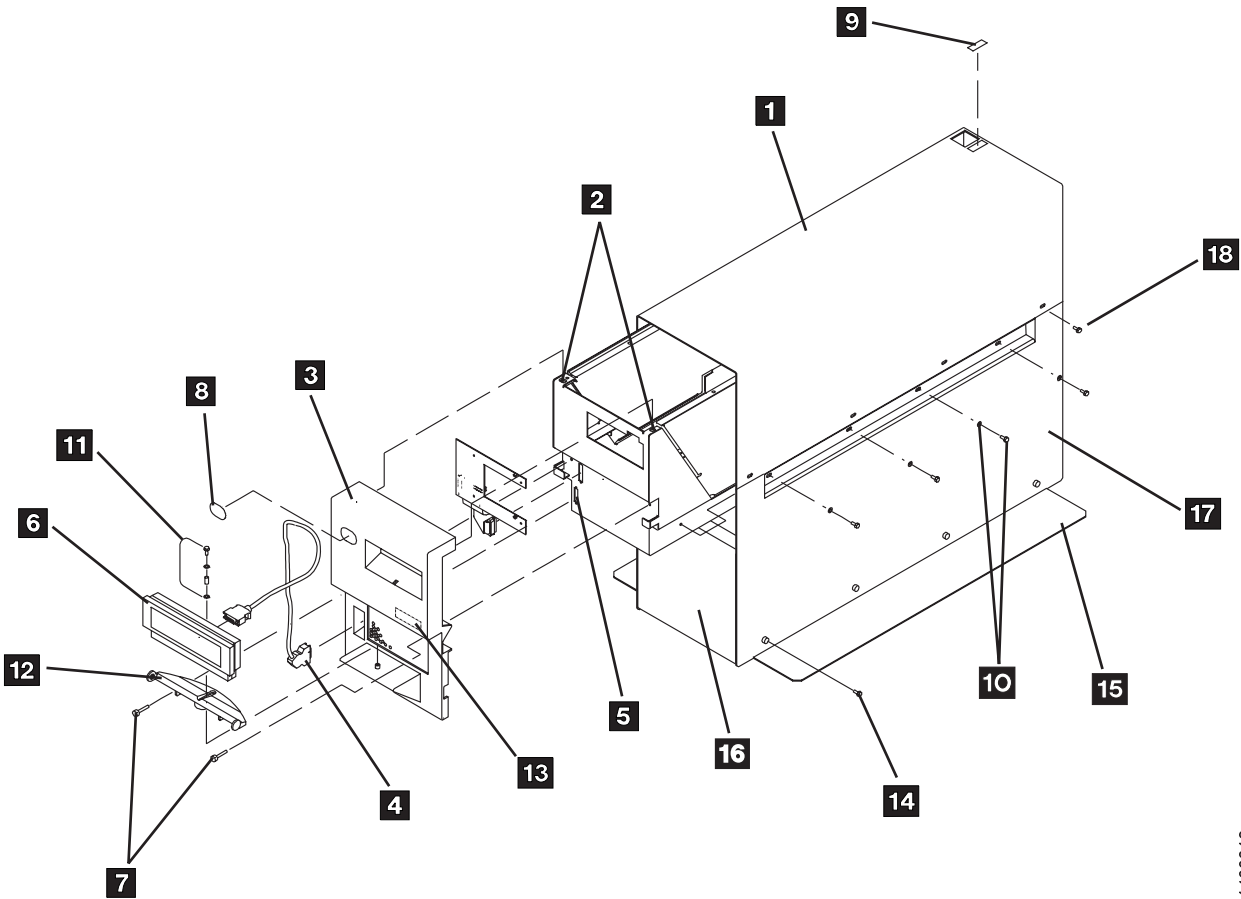

Figure 206. Desk Side Sleeve Installation for Model B1A/E1A, RPQ 8B3190
Note: Because of “Installation Checkout” test requirements for the drive, the installation of the desk side sleeve top cover **1**, in Figure 206 on page INST-31, occurs after “Installation Checkout”.
- ___ 6. Refer to Figure 206 on page INST-31. Install the front cover **3**, P/N 05H3260, by hooking it onto the slots/holes **2** located at the top of the front drive enclosure. Secure the cover by tightening the screws **7**, P/N 1621522, to the front of the drive enclosure.